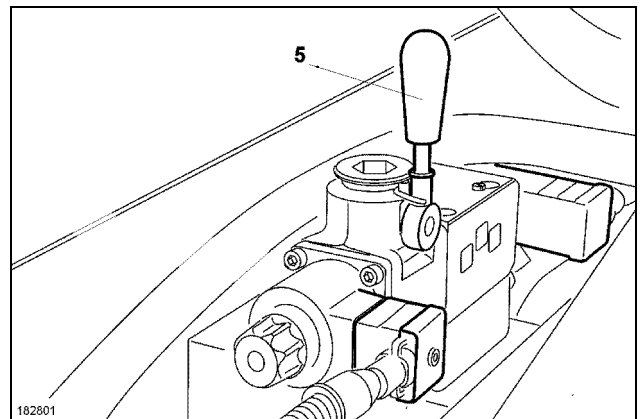

Fig. 6
The control lever (5) (Fig. 6) may only be installed for testing on the directional valve of the pilot control unit.
- Switch on the concrete pump with the control lever (5) (Fig. 6).